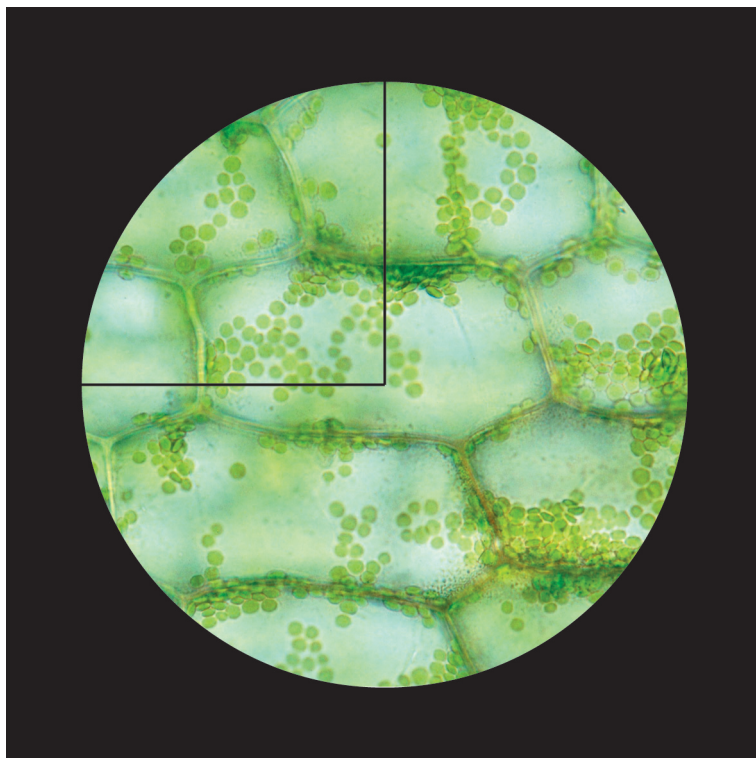
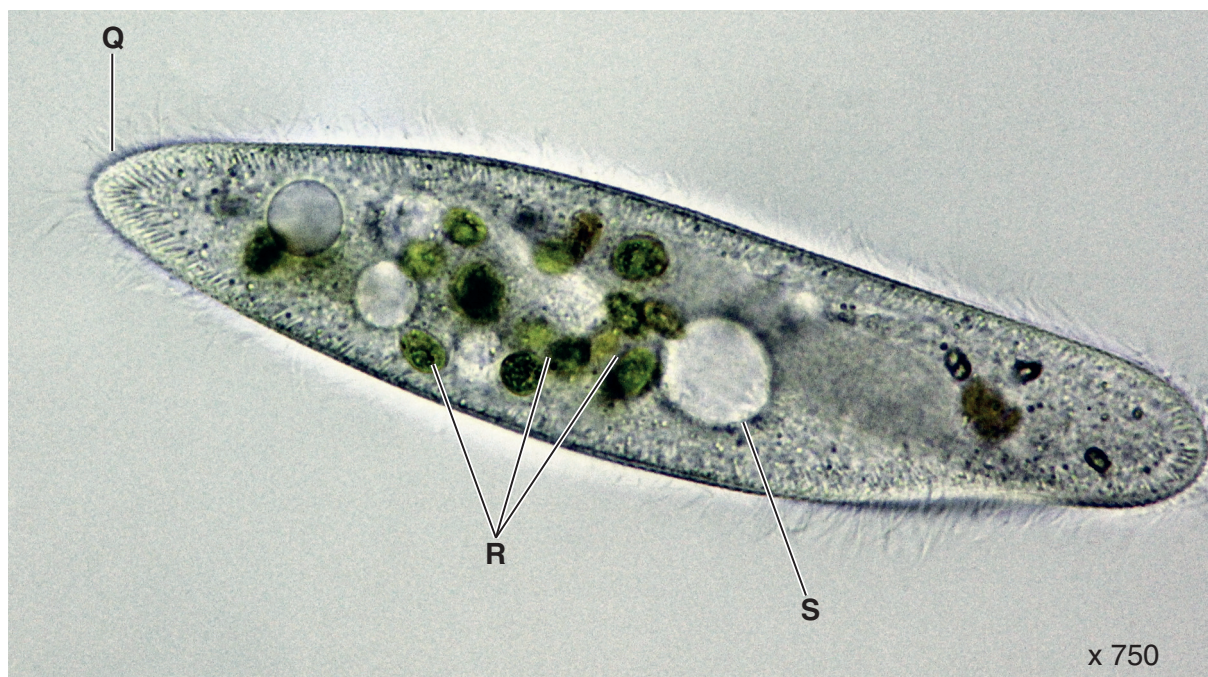

Fig. 2.3
Fig. 2.4
- count the number of chloroplasts in a quarter of the field of view, using Fig. 2.3 (on page 14)
Fig. 2.3 is a photomicrograph showing leaf cells, with the same field of view as in Fig.
Fig. 2.3 shows chloroplasts in leaf cells. There are too many chloroplasts to count, so the technique of sampling may be used to estimate the number of chloroplasts in the field of view.
- Mark clearly **on Fig. 2.3** each of the chloroplasts counted.
Fig. 2.4 is a photomicrograph of a one-celled organism which lives in fresh-water. You are expected to have studied this organism. The organism has engulfed some green algae which it uses for food.
- (c) (i) Prepare the space below so that it is suitable for you to record the observable differences between Fig. 2.3 and Fig. 2.4.
To help you some of the structures on Fig. 2.4 have been labelled with letters.